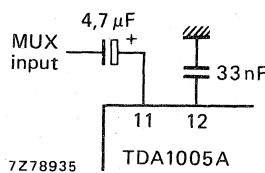
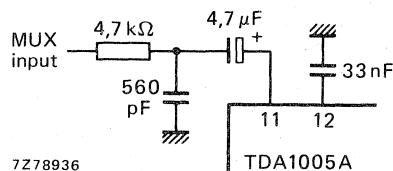

Fig. 13 Without filtering.
Fig. 15 With RC-filter for achieving i.f. roll-off (typ. 62 kHz).
- For other input structures see Figs 13 to 21; shown here is with RC-filter (Fig. 15).